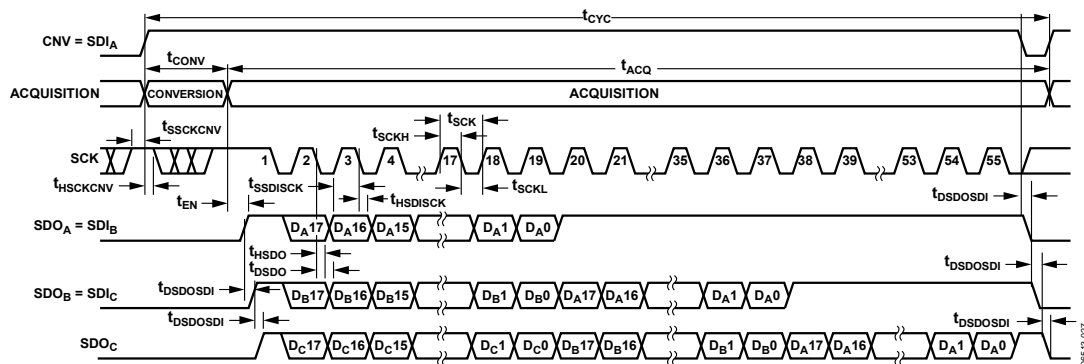

Figure 40. Chain Mode with Busy Indicator Serial Interface Timing
- In the chain mode if SCK is high during the CNV rising edge (see Figure 40).